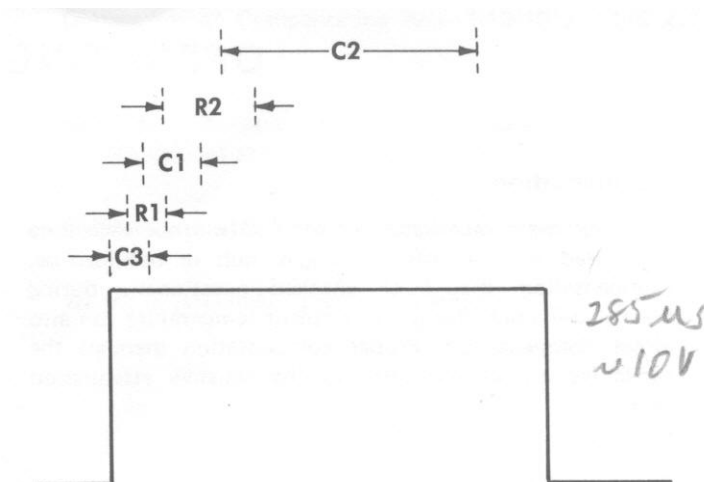
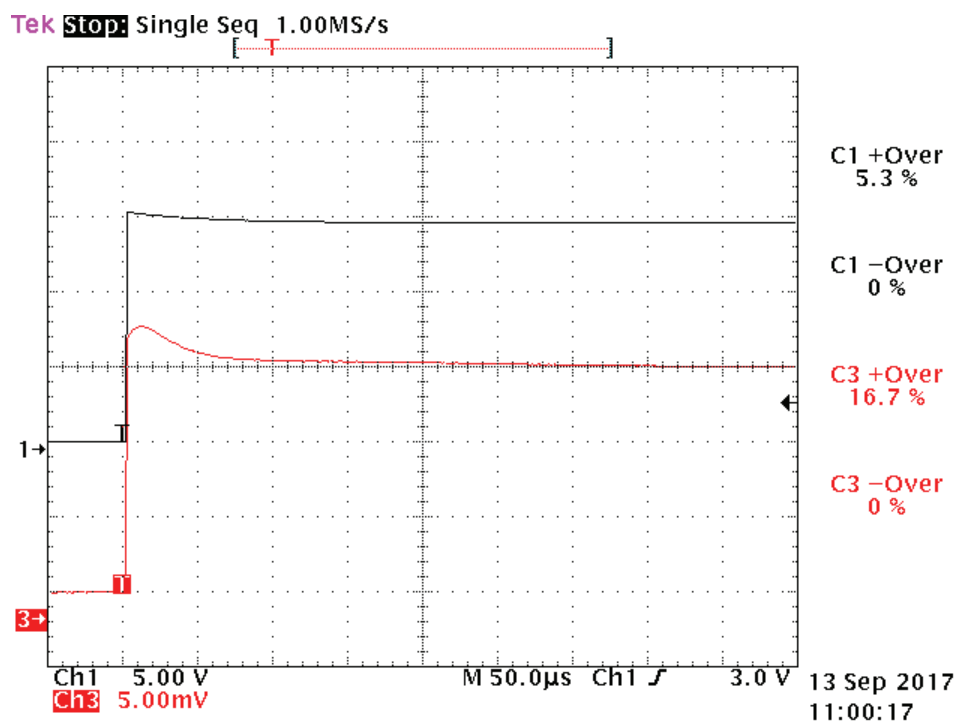

Figure 6. Effect of compensation RC's on the pulse wave form.
Figure 7. Pulse comparison prior to adjustment of R1, C3, and C1.
2. **Long-Pulse Compensation (leading edge):** Apply a 20- to 40-V, ≈ 300 - μ s pulse directly to the probe tip. Here, we employed a Tektronix model PG-507 generator. Set the sweep rate to 50 μ s/div. Referring to Figure 6, progressively adjust R1, C3, and C1 for the sharpest leading corner. Leading-edge undershoot or overshoot should be minimized. It may be necessary to repeat these adjustments in the order given to achieve optimum result. Figure 7 shows a comparison of the two probes prior to adjustment. Distortion on the reference wave form (channel 1) arises from the slight inductance of the flying leads used to connect the pulse generator.